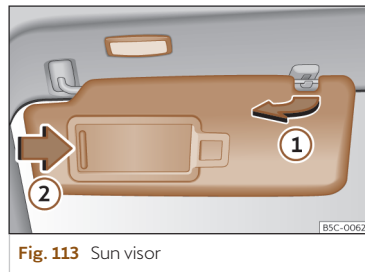

Fig. 113 Sun visor
- The sun visor can be pulled out of its mounting and turned towards the door >>> **Fig. 113** ①.